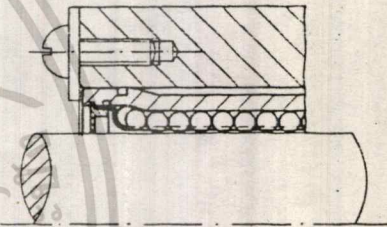

Figure 6: Axial retention by means of screws and cover plate
- special arrangement (Figure 6)
- special arrangements (Figures 6 and 7)